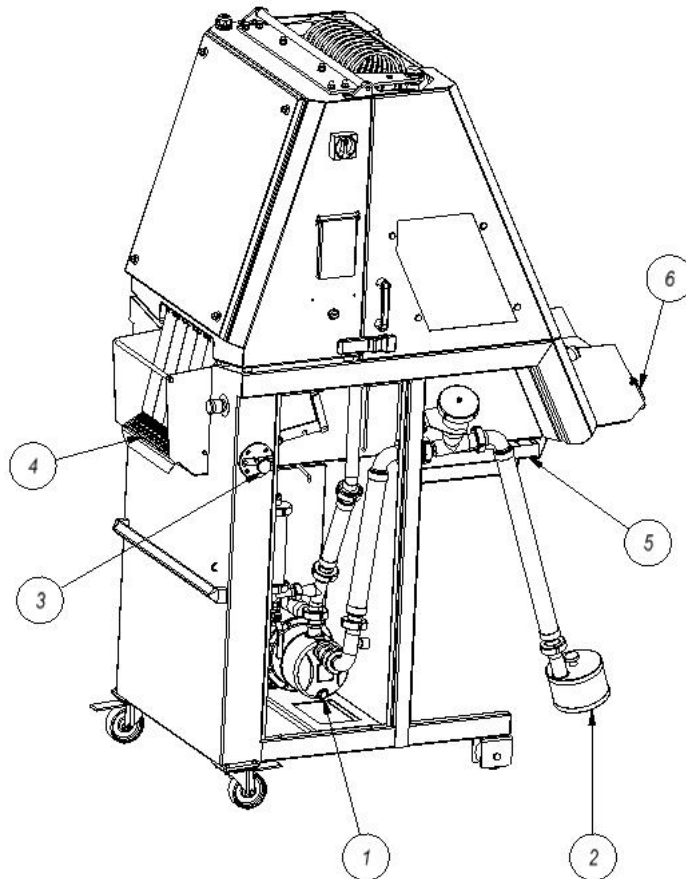

Figure 10. Discharge valve location
- unscrew the brine drain plug from the pump (pos.1) and empty the pump
- screw in the brine drain plug from the pump (pos. 1),
- remove suction components (pos. 2),
- pull the locking pin (pos. 3, fig.10), what will disconnect the belt conveyor drive
- Dismount draining board (pos. 4), filters (pos. 5), cover (pos. 6)
- press the blocking bolt in – p. 3, fig. 10, which will connect the belt conveyor drive,